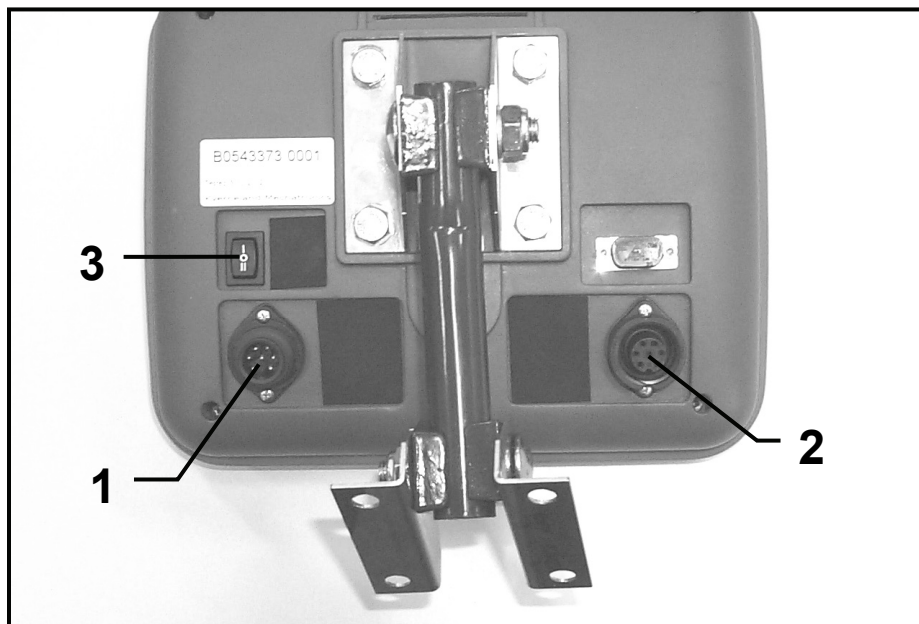
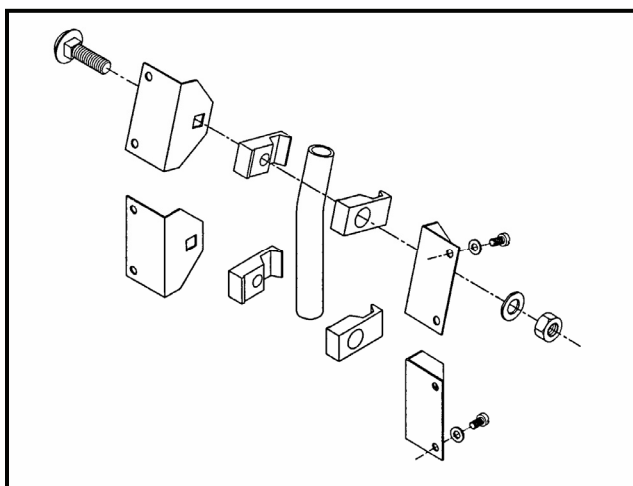

Fig. 1
Fig. 2
Assemble the control box (fig. 1) in the tractor cabin with the enclosed assembly material (fig. 2). Ensure that a position favourable for operation in the driver's field of vision is selected.
The control wire for the spraying system is inserted in the left-hand socket (1) on the reverse of the control box and secured by means of a screw-type connection (fig. 1).
The control box is switched on via the switches (3) on the reverse (fig. 1).